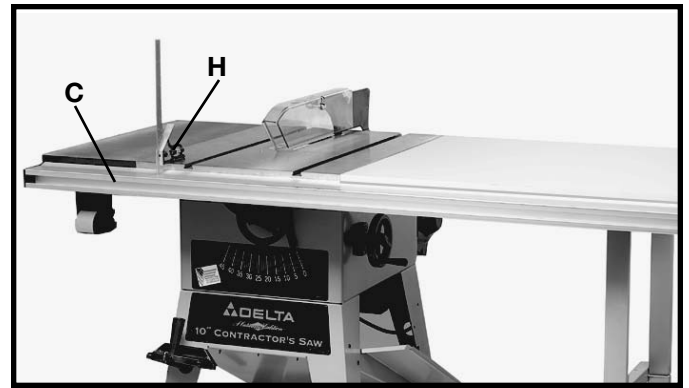

Fig. 25
7. Adjust the guide rail (C) Fig. 25, parallel with the saw table surface. Place a square (H) on the saw table at both the left and right front ends of the table, with the rule of the square against the flat surface on top of the guide rail. The guide rail (C) Fig. 25, can be adjusted up or down at either end. After you are certain the guide rail is parallel with the table surface, firmly tighten the two hex nuts that fasten the guide rail to the table. **NOTE: If a bolt was inserted through a sheet metal extension wing on the left side of the saw, tighten that nut also.**